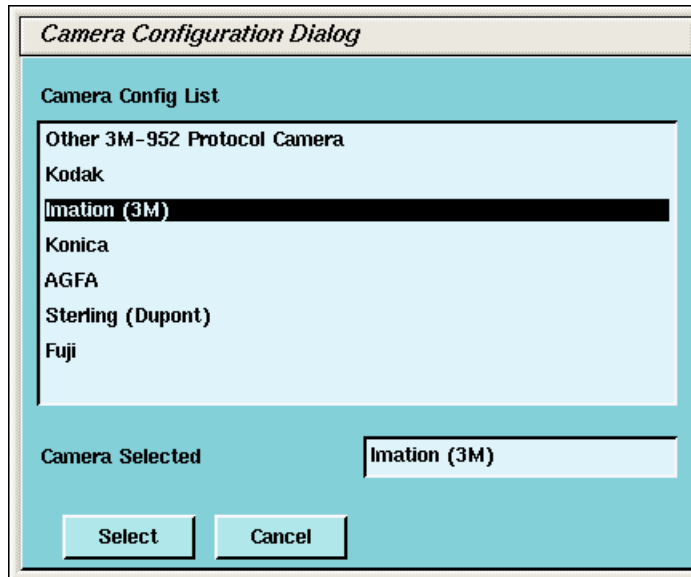

Figure 7-11 Camera Model Dialog (with DASM)
- 5.) To add a new laser camera, click DASM in the camera type dialog box. This brings up a list of available camera models. Select the appropriate model from the list and click SELECT (See Figure 7-11). Now you must configure it.